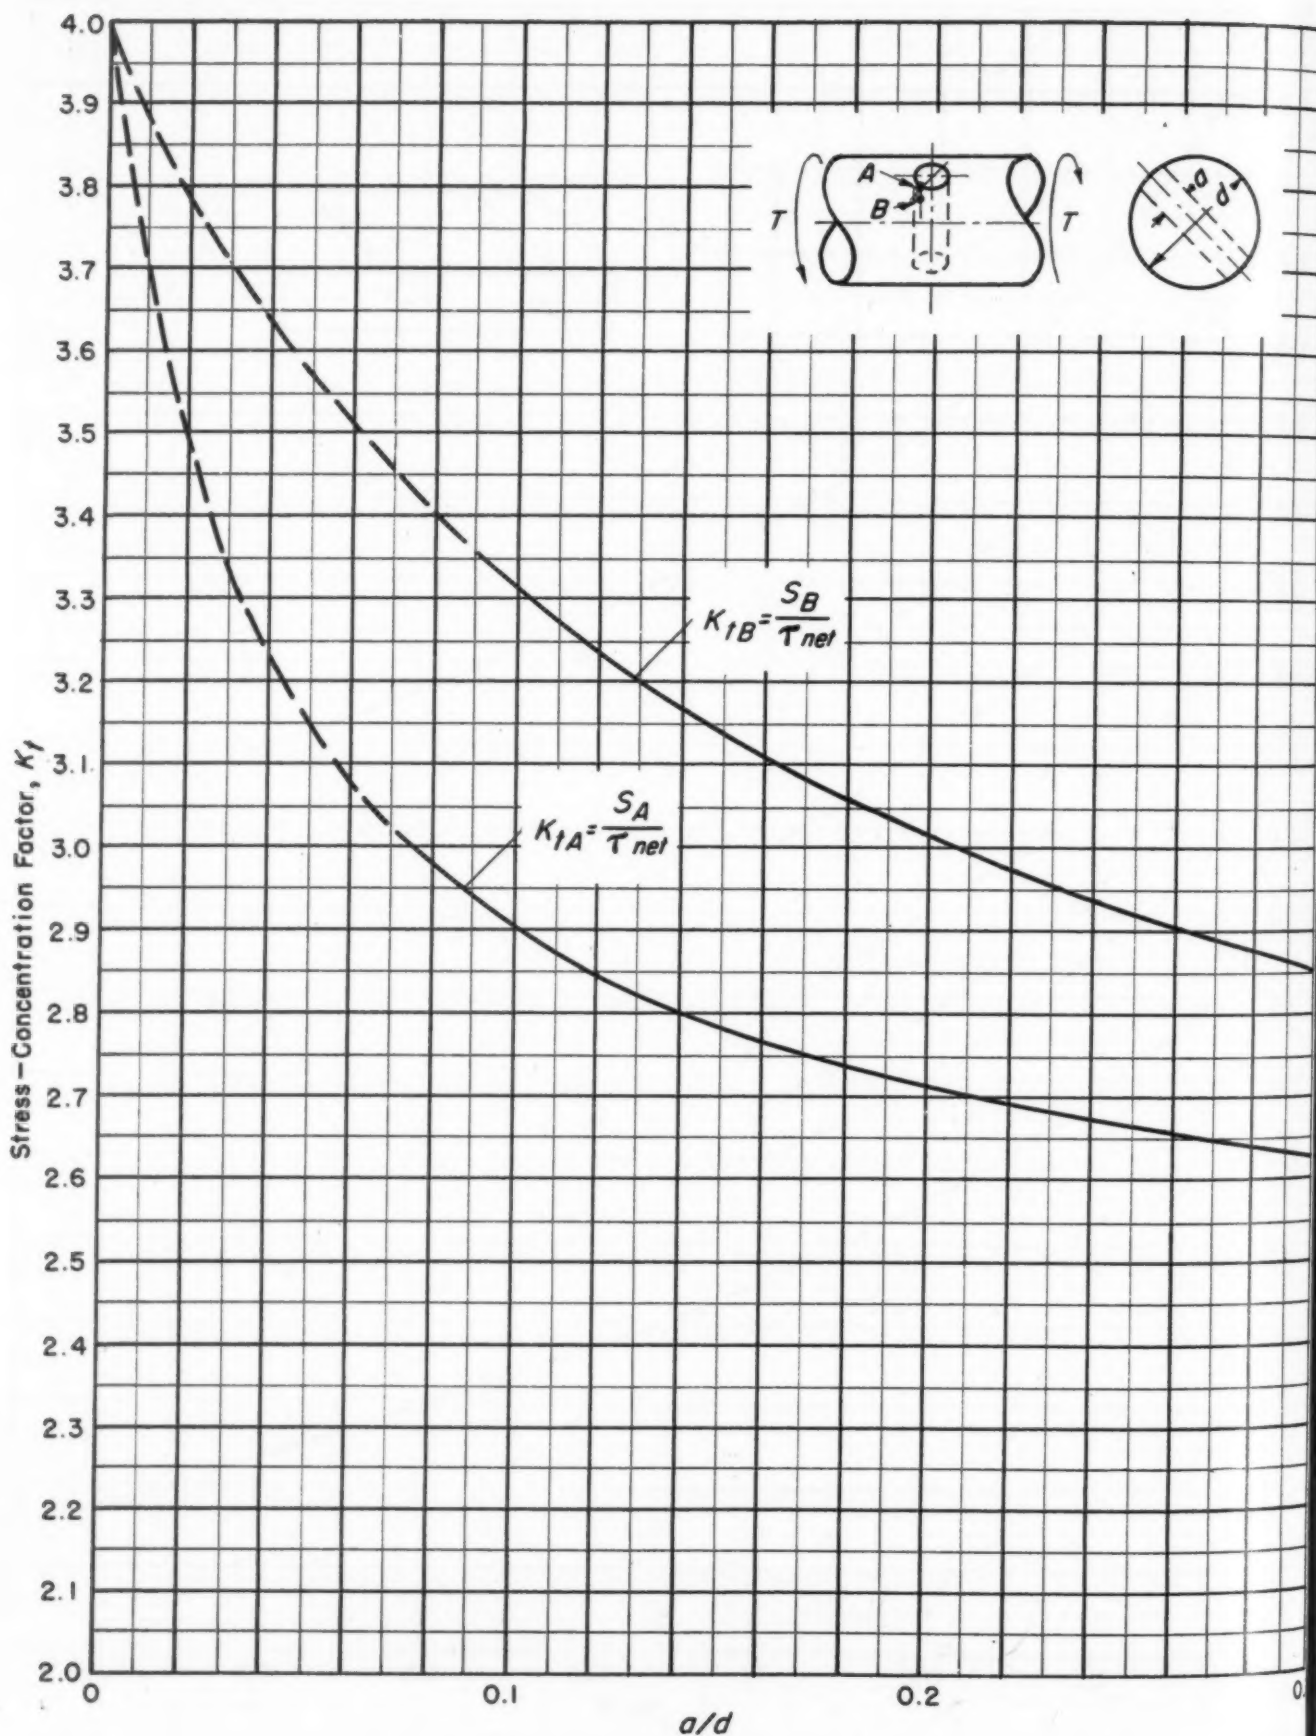

Fig. 27—Stress-concentration factor,  $K_t$ , for a shaft, with a transverse hole, in torsion
twice the applied shear stress. For round shafts the values shown in Fig. 27 have been obtained by Thum and Kirmser10 with special strain gages. In Fig. 27,  $K_t$  is arbitrarily defined and the maximum normal stress (tension) at the hole divided by the applied shear stress based on net section. That is,  $K_{tA} = S_A/\tau_{net}$ ,  $K_{tB} = S_B/\tau_{net}$ . Note that the tension is higher on the hole surface at a distance slightly below the shaft surface, at B in Fig. 27. Hence, for design  $K_{tB} = S_B/\tau_{net}$  should be used.
**TORSION:** For brittle material, two theories11 of failure are of interest: maximum stress theory and Mohr theory. Certain test data seem to substantiate the former12 while other tests and reasoning lead to preference for the latter.13, 14 For the maximum-stress theory,  $K_{tB}$  of Fig. 27, and for the Mohr theory,  $K_{tB} S_{uc}/(S_{uc} + S_{ut})$  should be used, where  $S_{uc}$  = compressive ultimate strength and  $S_{ut}$  = tensile ultimate strength. Note that the former gives a higher factor and, if used in design, will be on the safe side. A premise of the foregoing factors is that Hooke's law is followed; for curved stress-strain diagrams (cast iron) the factors will be somewhat high, again on the safe side.
For ductile material, the shear-energy theory15 is employed. Use  $K_t = 1$  for static loading. For variable loading  $K_{tB}' = \tau_e/\tau_{nom} = K_{tB}/\sqrt{1 - C + C^2}/\sqrt{3}$ , where  $K_{tB}$  is obtained from Fig. 27 and  $C$  = ratio of principal stresses at B. For the proportions of greatest interest,  $C$  was found10 to be approximately 0.12. With this value, the above expression reduces to  $K_{tB}' = 0.545 K_{tB}$ . For the usual proportions,  $K_{tB}'$  is greater than  $K_{tA}/\sqrt{3}$ . In other words, failure can be expected to start in the hole beneath the shaft surface. This is true for both brittle and ductile materials.
At point B in Fig. 27,  $\tau_{nom} = \tau_e/K_{tB}' = \tau_e/0.545$ .  $K_{tB} = 29,000/(0.545)(3.31) = 16,000$  psi. This is the estimated torsional fatigue strength of the shaft with the transverse hole. From Fig. 5, Part 1 (February issue), it can be seen that, for  $r = 0.1$ -inch, substantially full notch sensitivity can be expected in a heat-treated steel.